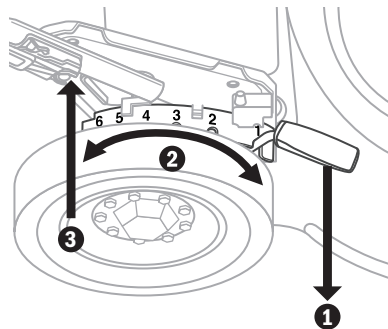

Fig. 6
2. To change the cutting height, squeeze the height adjuster lever toward the wheel (1, Fig.6).
3. Move the lever up or down to the desired position (2, Fig.6), release the lever to lock the wheel in position.(3, Fig.6)